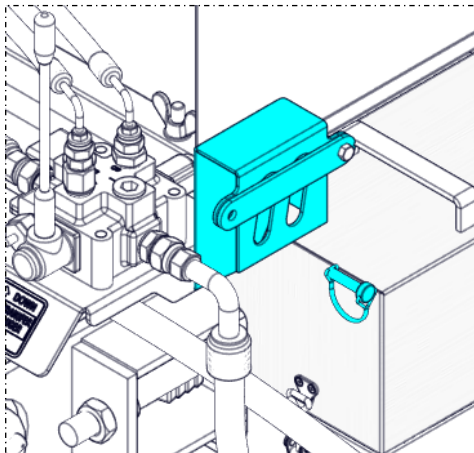

Figure 4.19
- A) Open the quick pin that is holding the lock plate and the front panel of the hose hanger (Figure 4.19).